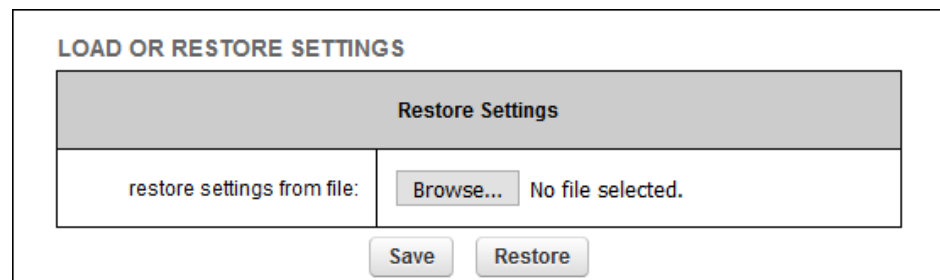

Figure 53. Configurator GUI (LOAD OR RESTORE SETTINGS dialog)
- The **LOAD OR RESTORE SETTINGS** dialog will be shown (Figure 53 \(page 103\)).